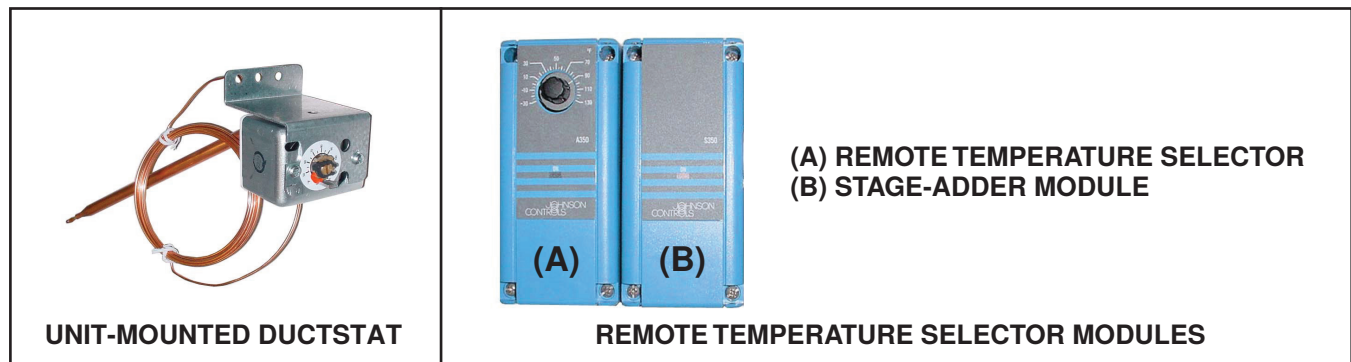

Figure 32. Unit-Mounted Ductstat and Remote Temperature Selector Modules
- **Ductstat with capillary tubing (option AG3):** The control (see Figure 32) has an adjustable range of 60°F to 100°F (15.6°C to 37.8°C) with a fixed differential of 3°F (1.7°C). Due to different CFM settings and outside air temperatures, the average downstream outlet air temperature may not match the ductstat exactly. The ductstat is attached to the furnace and is connected by a capillary tubing to the sensor. For shipping, the sensor is temporarily mounted on a bracket on the inner part of the furnace duct side. Refer to the Discharge Air Temperature Sensor Installation section for instructions on relocating the sensor bulb to the discharge duct. After the installation is complete, adjust the ductstat's setpoint to achieve the desired average discharge air temperature.
- **Ductstat with electronic remote setpoint module (option AG15):** The remote modules (see Figure 32) are shipped separately for field-installation. There will be one module for selecting temperature and one-stage adder module. The sensor is shipped separately for installation in the discharge duct (refer to Discharge Air Temperature Sensor Installation section). The sensing probe is field-wired to a remote temperature selector. Follow the wiring diagram provided with the unit and the manufacturer's instructions for wiring and installation. The temperature selector has an operating range to 130°F (54.4°C). For proper function, ensure that the switch is set to the **Heat** position.